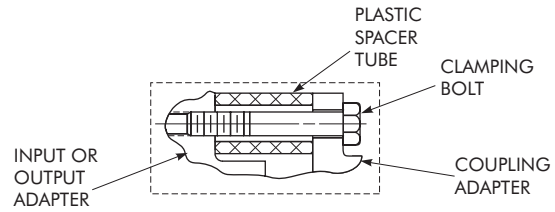

Figure 3a
- B. Remove clamping bolts and plastic spacer tubes on both ends between coupling adapter and input/output adapter, see Figure 3a. Properly discard spacer tubes while keeping the clamping bolts for use in the following steps. See Table 3 for clamping bolt size and number.